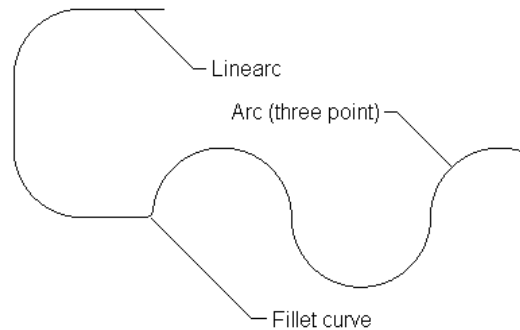

Figure 7-68 Fillet curve created between linear and three point arc
7. Select the three point arc adjacent to linearc; a fillet curve is created between linearc and three point arc, as shown in Figure 7-68.